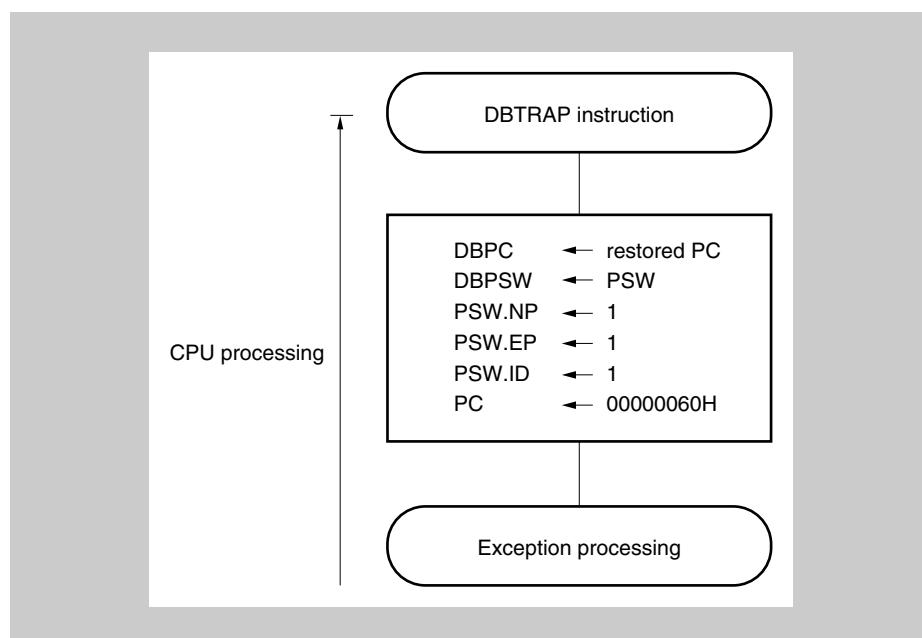

Figure 5-14 Debug trap processing
*Figure 5-14 illustrates the processing of the debug trap.*